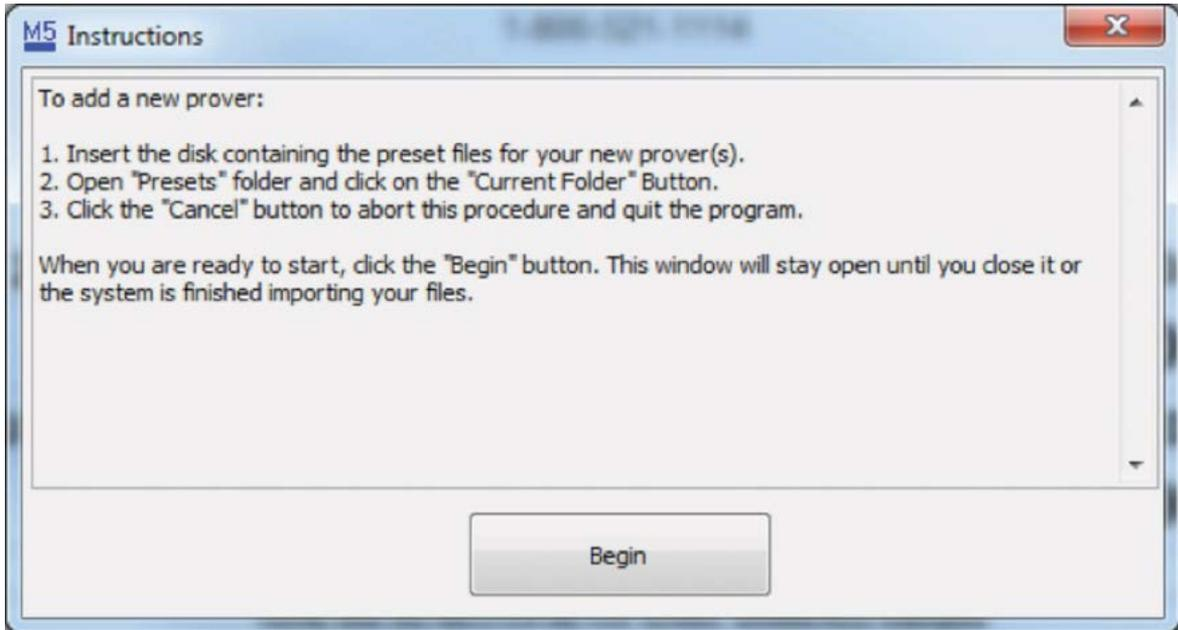
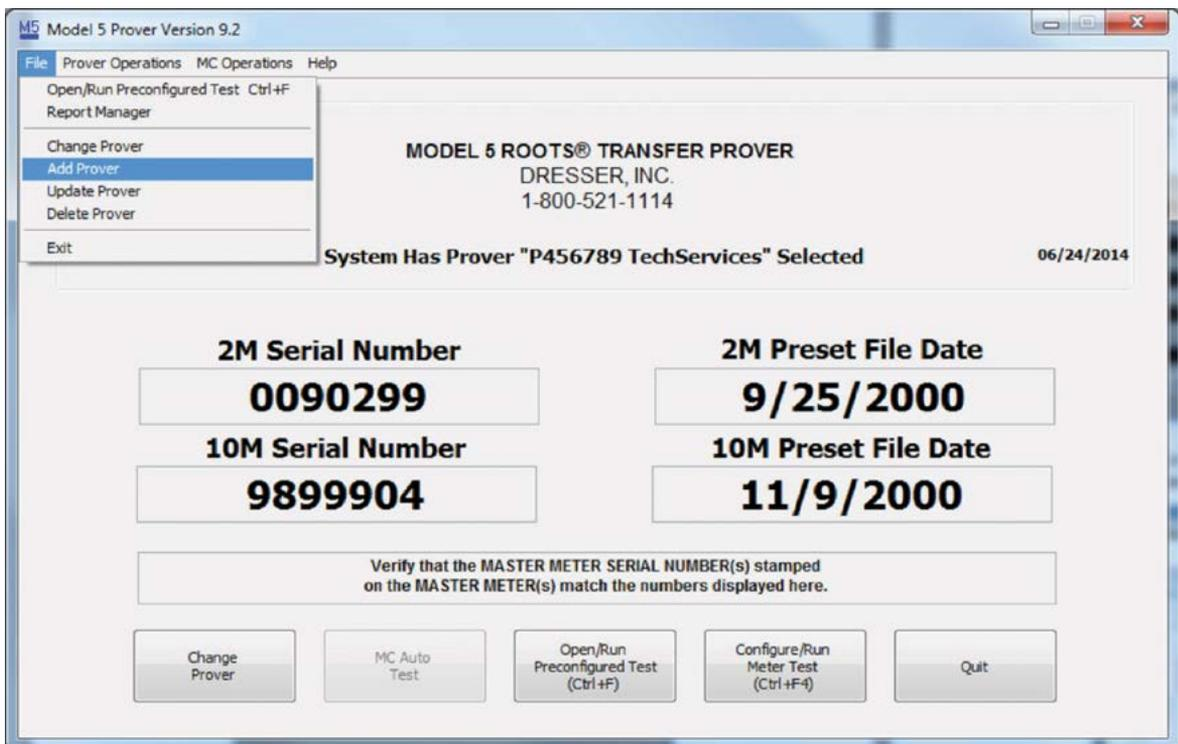

Figure 46: Preset Warning Box
Figure 47: Prover Main Screen
Often when installing a new software version, the software will require presets to be loaded. If after installation a warning dialogue box appears (**Figure 46**) please follow the subsequent procedure.
1. If upon opening the software **Figure 46** appears, click "Begin". If no message appears, on the upper left hand corner of the Prover main screen, go to "File" and Click "Add Prover". Refer to **Figure 47**.